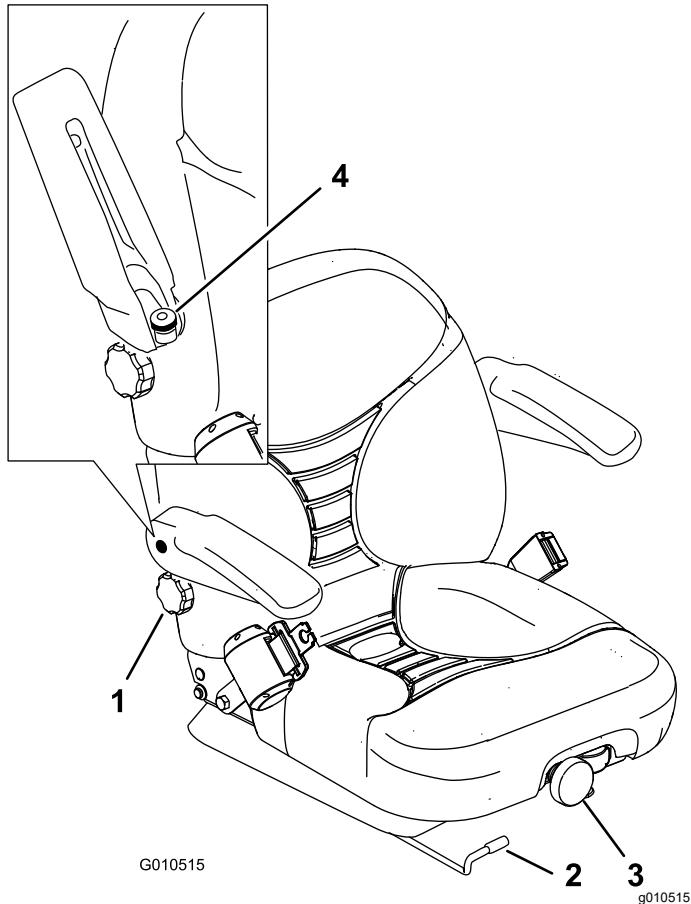

Figure 34
- Move the lever sideways to unlock the seat (Figure 34).
To adjust it, turn the front knob in either direction to provide the best comfort (Figure 34).
To adjust it, turn the knob, under the right-side armrest, in either direction to provide the best comfort (Figure 34).
Raise the armrest and turn the knob in either direction to provide the best comfort (Figure 34).